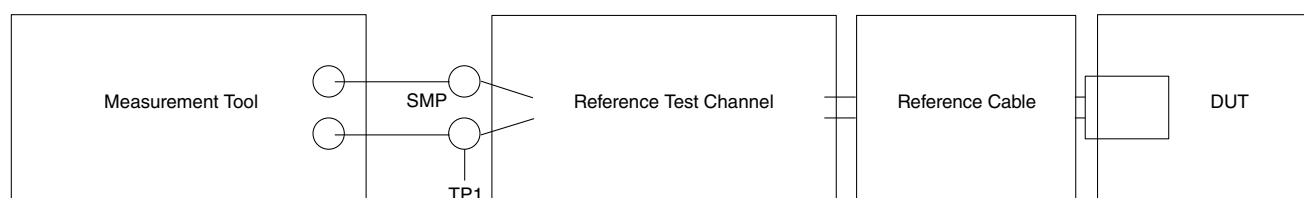

Figure 35. Tx normative setup
- Measured at compliance TP1. See Figure 35 for details.